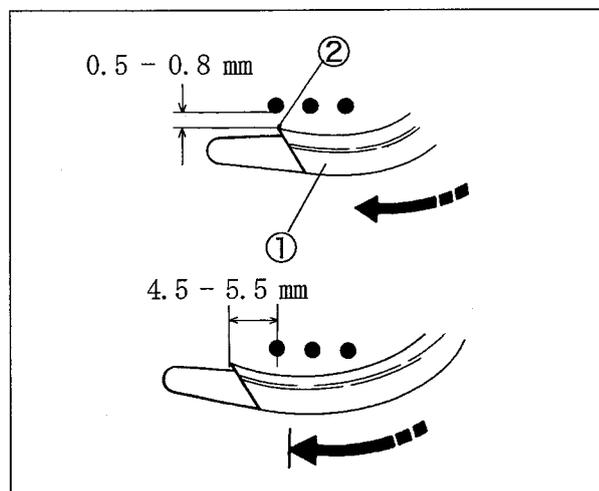

Fig. 6-5
- (2) Make the clearance between the left needle and the hook ② of the spreader ① to 0.5 - 0.8 mm. (Fig. 6-5)
- (3) Make the clearance between the center of the left needle and the hook ② to 4.5 - 5.5 mm when the spreader ① is at the extreme left. Then tighten the screw ④ securely. (Fig. 6-5, 6-7)